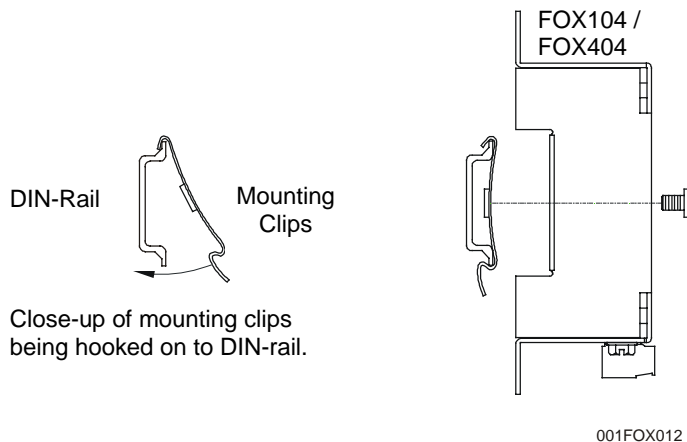

Figure 3 – (Left) DIN-Rail and Mounting Clips, and (Right) FOX104 / FOX404 DIN-Rail Mounting
3. Noting the proper location, attach two (2) DIN-Rail mounting clips (included with FOX unit) to the DIN-Rail by hooking the clips over the top of the Rail and rocking down and snapping over the bottom of the Rail. (Refer to Figure 3.)
4. Adjust clips as necessary by sliding them along the DIN-Rail to align with the holes in the tabs of the FOX unit. Using the provided screws, mount the Fox unit to the clips. Tighten screws as necessary to hold the unit securely. (Refer to Figure 3.)